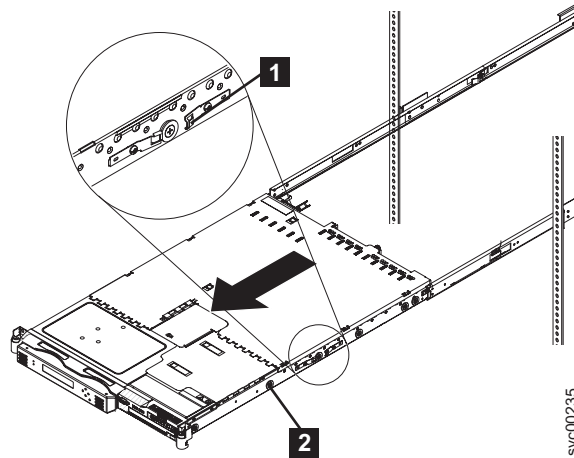

Figure 21. Removing the SAN Volume Controller 2145-8G4 from the rack
3. Position yourself to support the weight of the node when it is no longer held by the slides and then press the rear slide release latches (**1** in Figure 21 on page 39) on both sides of the SAN Volume Controller 2145-8G4 node.